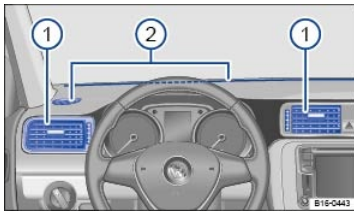

Fig. 162 In the driver side instrument panel: Air vents. Position of the air vents is mirrored on the passenger side.
To help ensure sufficient heating, cooling, and ventilation in the passenger compartment, never close the air vents completely ⇒ Fig. 162①.
Additional, non-adjustable air vents are located in the instrument panel ⇒ Fig. 162②, in the footwells, as well as in the rear area of the passenger compartment.